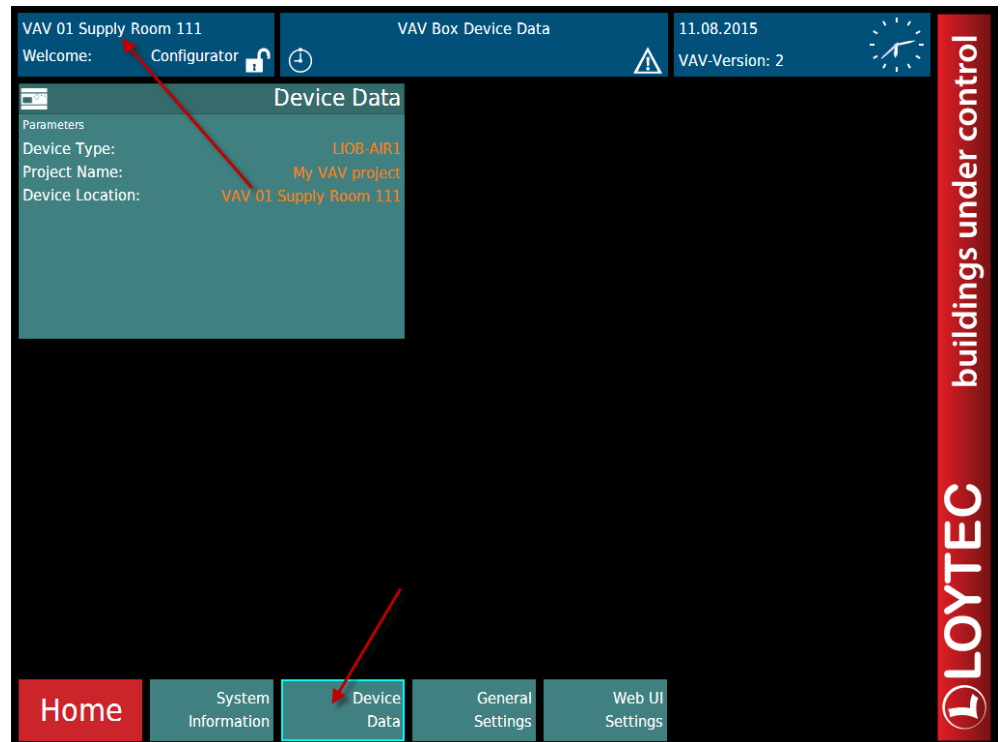

Figure 117: Device Location
Further device data should be entered by selecting the “Device Data” tile in the Navigation Area. This opens the page “VAV Box Device Data”. On the tile “Device Data”, the following parameter values can be entered as shown in Figure 117. These parameters are informational only and used to add clarity to the user and do not have to be unique.
**Device Location:** the location of the device can be entered here, e.g. “VAV 01 Supply Room 111” or some other description needed for the project. Please note that this string is displayed also in the left title area on top of all the pages as shown in Figure 117.